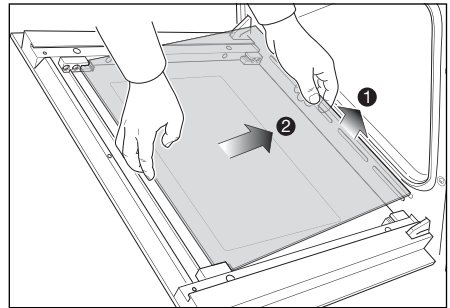

Fig.22c
- Gently lift the bottom edge of the pane (arrow 1 in Fig. 22c) and remove it by pulling it out from the top clamps (arrow 2 in Fig. 22c).